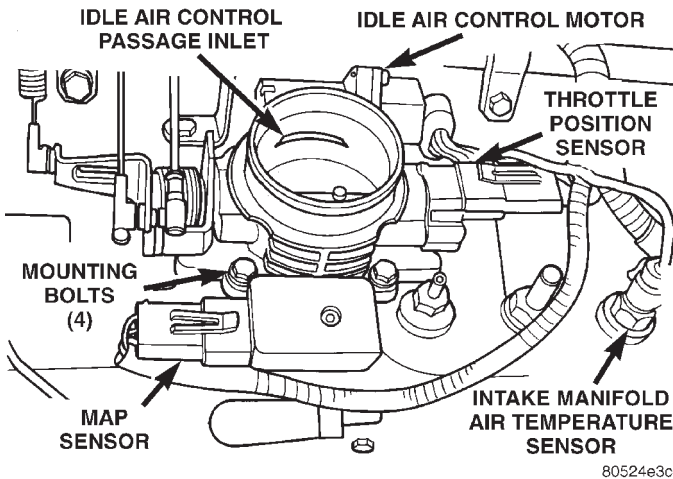

Fig. 56 Intake Manifold Air Temperature Sensor—4.0L Engine
(1) Disconnect the wire harness connector from the intake manifold air temperature sensor (Fig. 56).
To perform a complete test of the TPS (Fig. 56) and its circuitry, refer to the DRB scan tool and appropriate Powertrain Diagnostics Procedures manual. To test the TPS only, refer to the following: